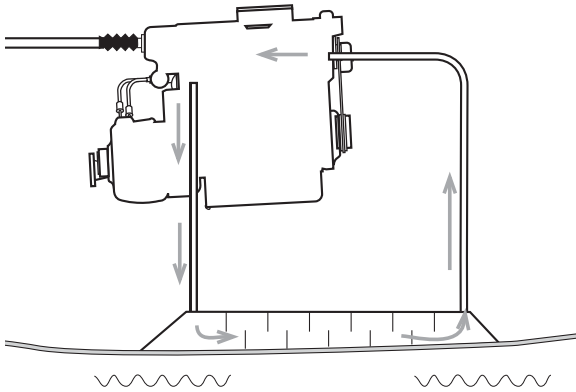

Fig. 2g - Fuel filter replacement
2. Replace the fuel filter cartridge every 750 hours. See fig. 2g.